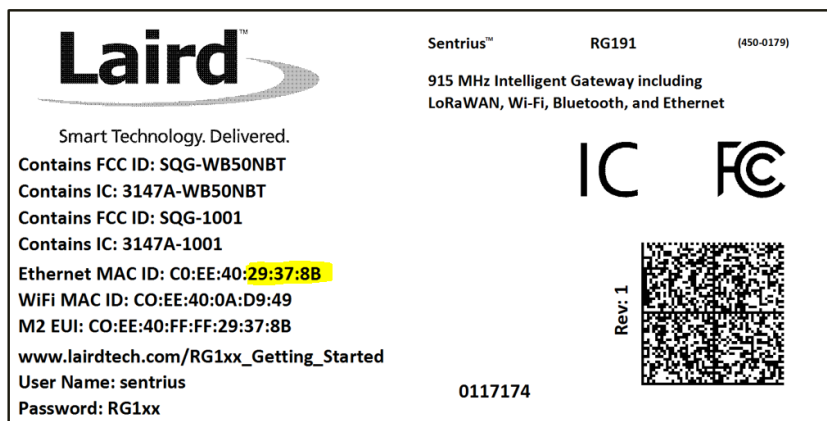

Figure 4: Bottom label – last three bytes of the Ethernet MAC address highlighted
3. Connect to the access point rg1xx**29378B**, where “29378B” are the last six digits of the Ethernet MAC address found on the label on the bottom of the gateway (Figure 4).
1. Determine the last three bytes of your gateway’s Ethernet MAC address. This can be found on the label on the bottom of the gateway; the last three bytes are highlighted (Figure 4).